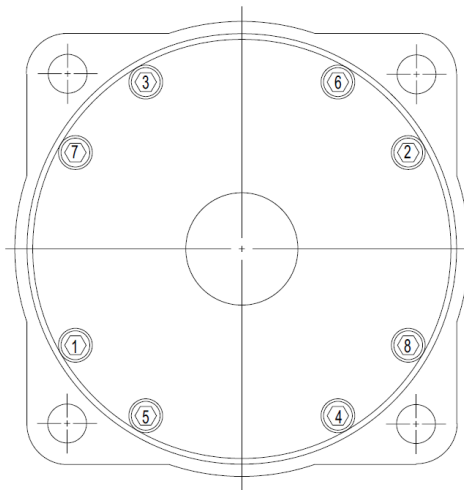
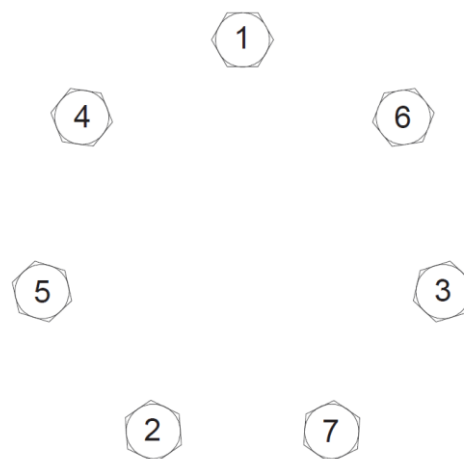

Figure 6
Figure 7
- A. To aid in reassembly of the motor, make a “‘I’ shaped set of lines from the endcover to the housing using either paint or a marker. With shaft facing down, secure motor in vise by clamping on to housing (15).
- B. Loosen and remove seven bolts (34) holding motor assembly together. Remove endcover (32) carefully as piston (30) and spring(31) may fall out. If piston does not come out, carefully pry piston (30) out of endcover (32) and lay aside. Remove O-Ring seal (13) and backup seal (14) from endcover and discard seals. Remove spring (31) and lay aside.
- C. Lift commutator container and commutator (29) from motor and lay aside. Place the commutator on a flat, clean surface with the seal(12) facing up. Place the tip of a small screwdriver on the seal (12) and gently tap until the opposite side of seal lifts from groove. Remove seal (12) and discard.
- D. Remove manifold (28) and rotor set (27). Remove all seals (10 & 11) from components and discard. (Caution- Do not allow rolls to drop from rotor assembly (27) when removing rotor assembly from motor.) Remove drive link (26) from motor and lay aside.
- E. Put the housing assembly into an arbor press with the shaft facing down. Lower the press to apply downward pressure on the rear housing (23) and lock the press in place. Loosen and remove the eight capscrews (24) holding the rear housing (23) to the front housing (15). Slowly release the press to allow spring pressure to push the rear housing (23) from the front housing (15). Remove the rear housing (23) and lay aside. (NOTE: Bearing (16) and spacer shim(s) (22) may fall out of rear housing (23).) If no arbor press is available, place front housing in a vise with pilot on housing facing down. To remove the (8) SHCS, turn each screw ½ turn following the bolt pattern shown in figure 6 until the springs are fully released. Then remove all screws.
- F. Remove springs (21) from front housing (15) and lay aside. Remove housing (15) from arbor press and place on a clean, flat surface with output end of shaft (35) facing up. To remove piston (20), friction disks (17) and disk stampings (18 & 19), firmly grasp output end of shaft with a rag. Raise housing assembly a few inches above work surface and firmly strike housing assembly on work surface until piston and disks drop from housing assembly. Lay piston (20) and disks (17, 18 & 19) aside. Remove shaft (35) from housing (15) and lay aside.
- C. Install springs (21) on top of piston. Install O-Ring Seal (9) in rear surface of housing (15). If rear shaft bearing (16) and spacer shim(s) (22) came out of rear housing (23), reinstall at this time by placing spacer shim(s) (22) into rear housing (23). Install rear shaft bearing (16) making sure that snap ring that retains bearing rolls faces out. While holding bearing into rear housing, place rear housing (23) onto front housing (15) lining up bolt holes. While holding the motor assembly together, remove the motor assembly from vise and place in arbor press. Press down on rear housing (23) until it contacts front housing (15) and lock press. Install eight capscrews (24) and torque to 45 ft. lbs. If no arbor press is available, place front housing in a vise with pilot on housing facing down. Screw in the (8) SHCS until they engage the threads in the housing (15). Then turn each screw 1/2 turn at a time following the bolt pattern shown in figure 6 to evenly tighten down the rear housing (23) until it contacts the housing (15). Then torque the screws to 45 ft. lbs.
- D. Install drive link spacer (25) in shaft. Install drive link (26) into end of shaft with tapered end facing up. Place body seals (10) in grooves in both sides of rotor (27). Place rotor (27) onto rear housing (23) with side of rotor with chamfer in splines facing rear housing (23). Place manifold (28) over rotor (27) with seal groove side up. Install manifold seal (11).
- E. Install the commutator seal (12) into the commutator (29) with the metal side facing out. Use finger pressure to press the seal down flush with the surface of the commutator. Place the commutator container onto the manifold (28) and then place the commutator onto the protruding end of the drive link (26) making sure that the seal side faces up.
- F. Install the remaining body seal (10) in the groove in the face of the endcover (32). Install piston spring (31) into endcover (32), then the white backup seal (14) followed by the O-Ring seal (13). Lining up the alignment pin with the hole in the endcover, press piston (30) into the endcover (32). While holding the piston (30) in the endcover, lower the endcover assembly onto the motor. Check to make sure that the endcover ports are in their original position.
- G. Install the seven assembly bolts (34) and pre-torque to 10 ft. lbs. Final torque all bolts to 50 ft. lbs. using the bolt torque sequence shown in Figure 7.